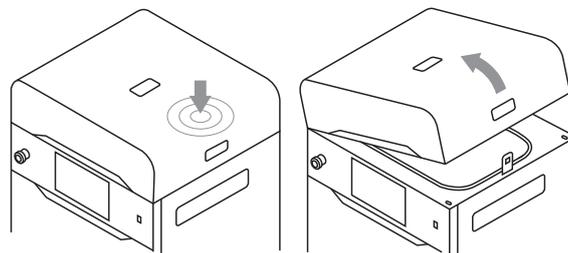

Fig. 3.1 Lifting the printer lid
4. Push on the lid and pull it up using the handle (fig. 3.1).